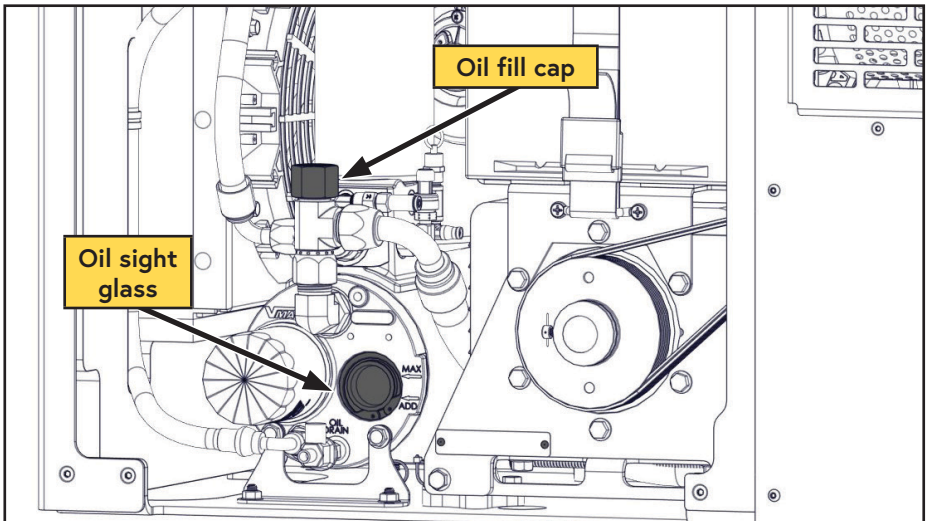

Figure 29 — Fill oil
- ☐ Remove the oil fill cap (Figure 29).